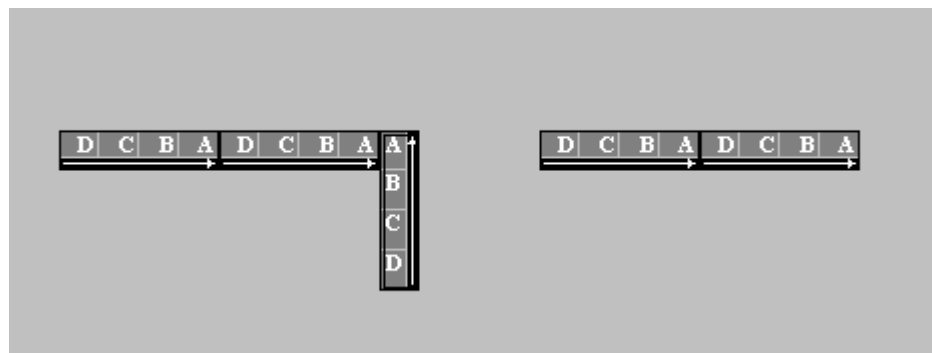

Fig. 4.18
- Click on **Up** position to change the direction as shown in Fig. 4.18.